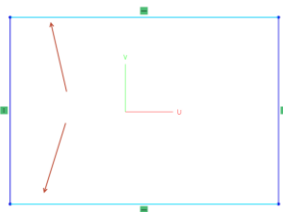

Figure 116
- **Shift+LMB Click** on the other **horizontal** line of the Rectangle (**Figure 116**).